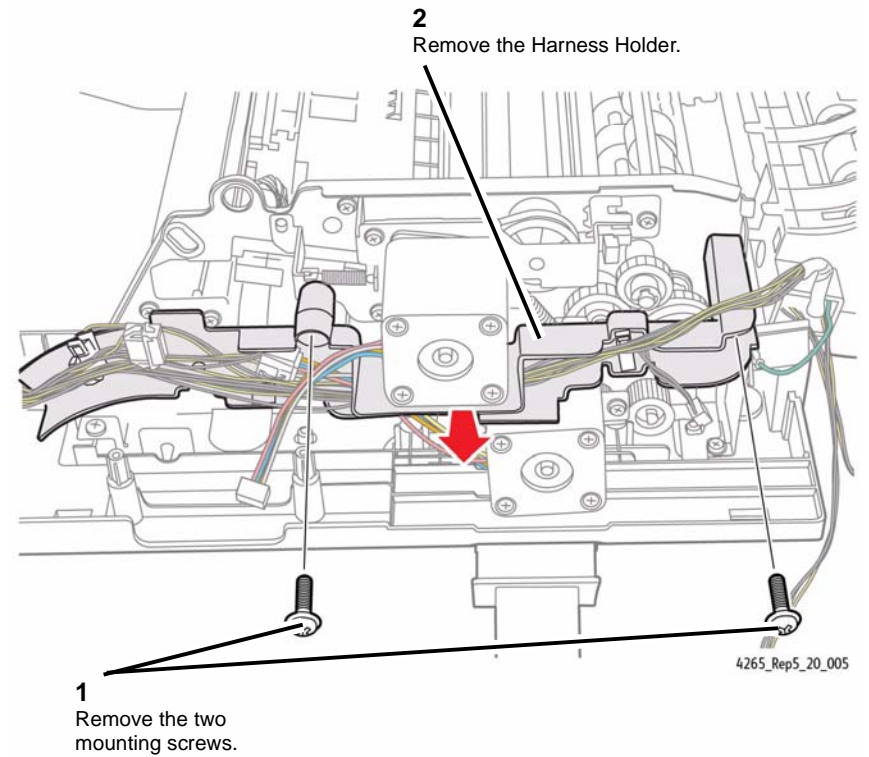

Figure 5 Removing the Harness Holder
8. Remove the Harness Holder (Figure 5).